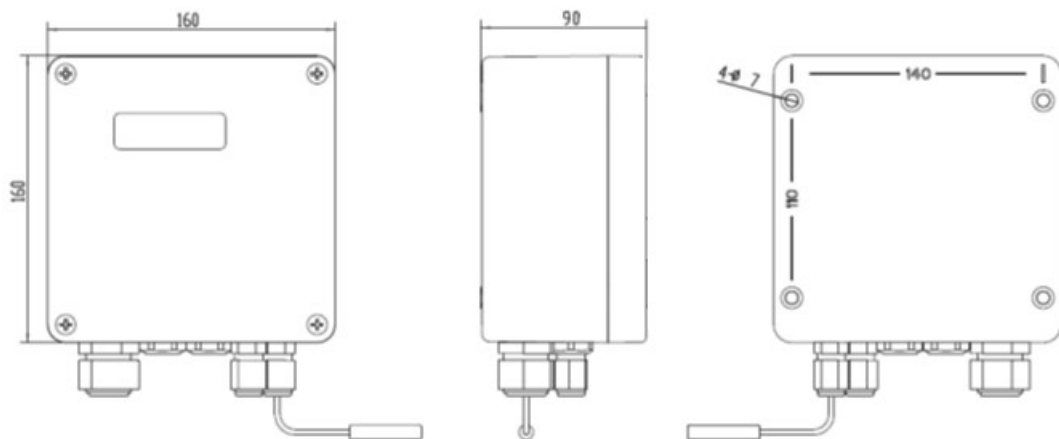
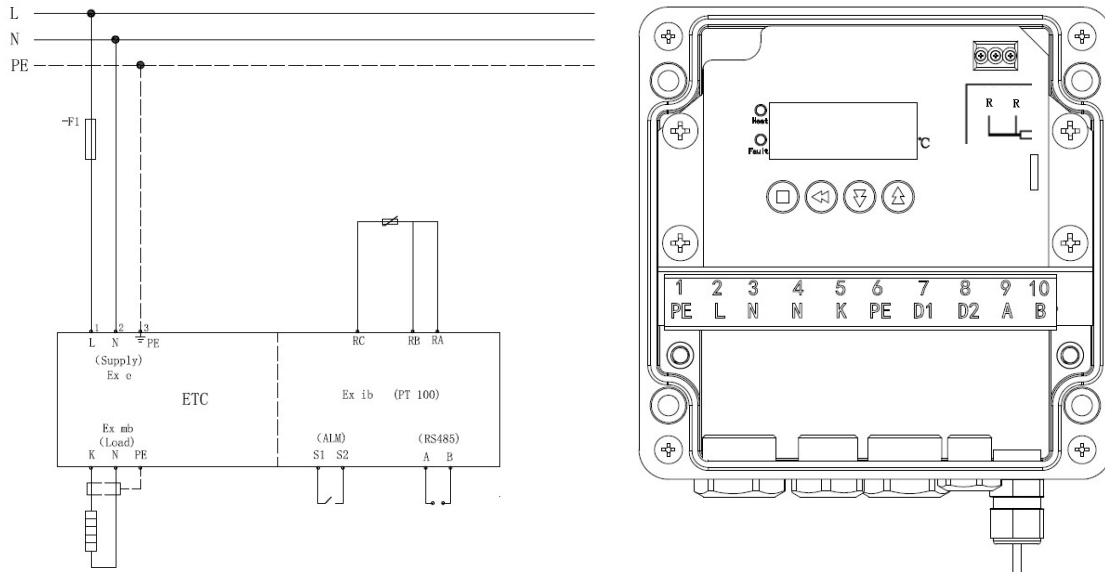

Fig. 1: The mounting dimensions
Fig. 2 The schematic of key, window and terminals
The mounting dimensions as below see Fig. 1 and Fig. 2.
The layout of key, window and terminals as below See the Fig. 2.
3) The terminal definition in Fig2 is described in table 1.